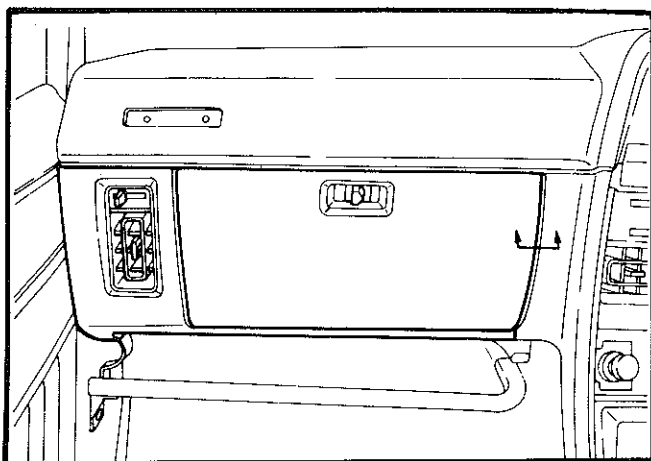

Fig. 13—Glove box alignment
(1) Install the glove box into the instrument panel and install the retaining screws, the long screw is fitted above the vent outlet.
(2) Prior to tightening the screws, position the glove box to give a uniform clearance between the glove box and console panel (refer Fig. 13).